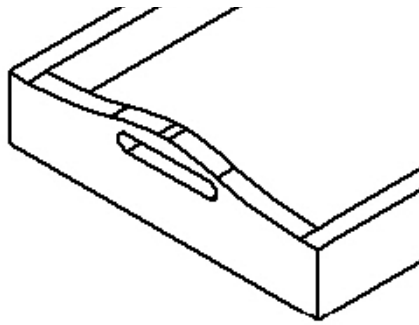

Fig. 13
- (f) (i) Name an appropriate joint that could be used to join the members of a wooden tray as shown in Fig. 13.